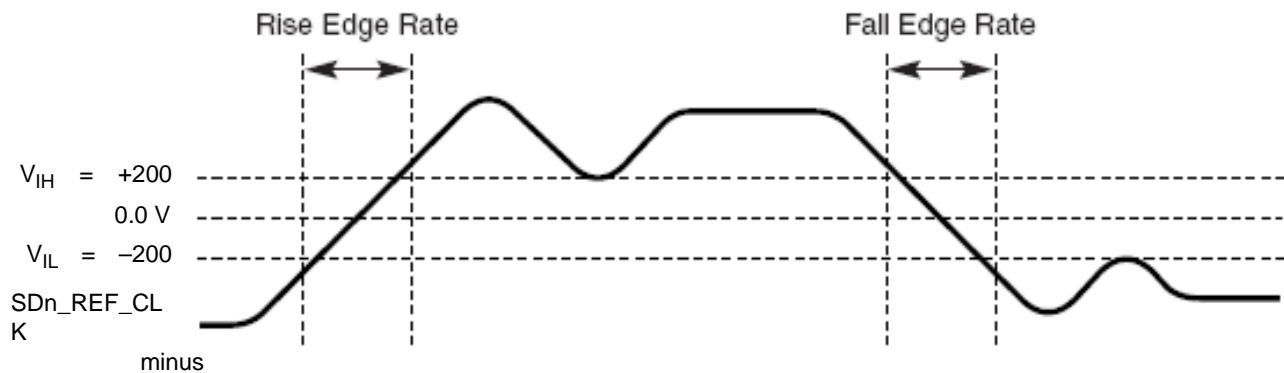

Figure 46. Differential Measurement Points for Rise and Fall Time
The differential waveform is constructed by subtracting the inverting signal (\overline{TXn} , for example) from the non-inverting signal (TXn , for example) within a differential pair. There is only one signal trace curve in a differential waveform. The voltage represented in the differential waveform is not referenced to ground. Refer to Figure 46 as an example for differential waveform.
3. Measured from -200 mV to +200 mV on the differential waveform (derived from $\overline{SDn_REF_CLK}$ minus SDn_REF_CLK). The signal must be monotonic through the measurement region for rise and fall time. The 400 mV measurement window is centered on the differential zero crossing. See Figure 46.